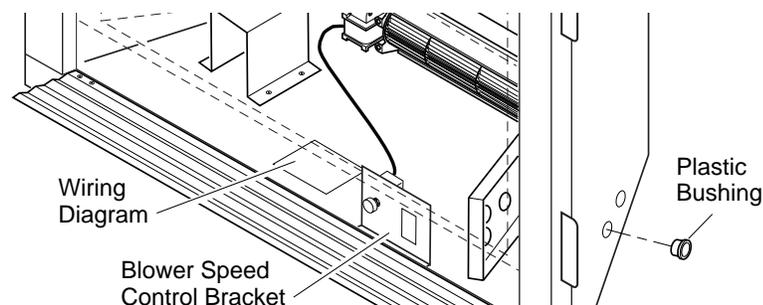

Figure 33 - Installing Plastic Bushing and Wiring Diagram Sticker
- a. If your fireplace system is installed as a freestanding unit with an accessory mantel, determine whether the power cord will exit the left side or the right side of the firebox. Install one plastic bushing provided into the 1 1/2" hole in the outer casing through which the power cord will exit. Install the second plastic bushing provided into the floor support bracket if exiting through the right side (see Figure 33). Route power cord through (both) plastic bushing(s) and plug the power cord into a properly grounded 3-prong wall receptacle near the firebox.
10. Peel off the backing paper and stick the supplied wiring diagram decal on the firebox bottom approximately 3" to the right of the blower speed control bracket (see Figure 33).